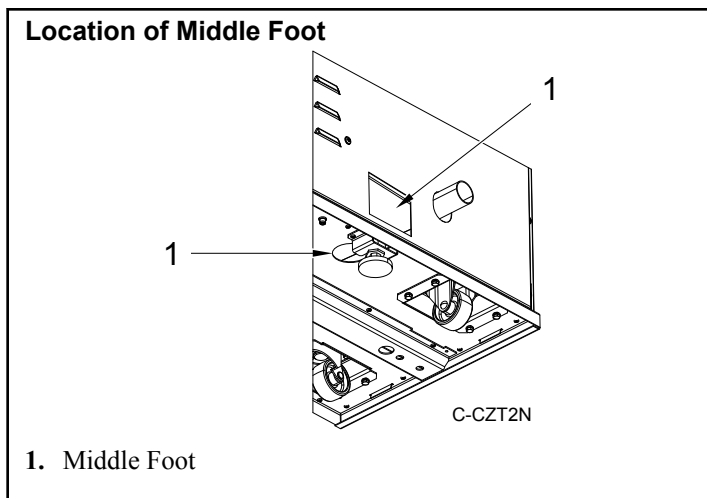

Figure 22
5. Remove the middle foot of the heat pump base. It is not necessary to dismantle the rear cover. Refer to *Figure 22* .